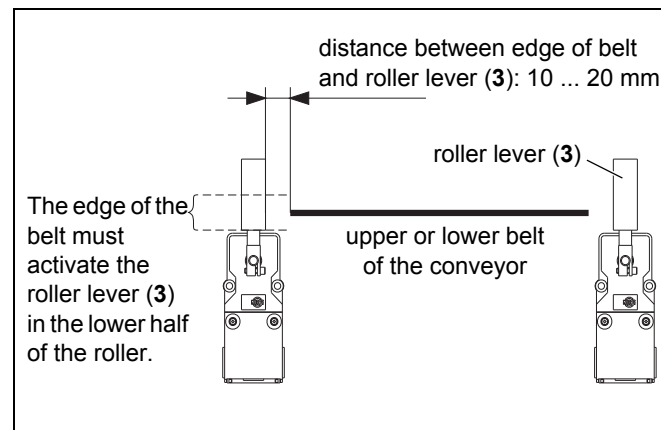
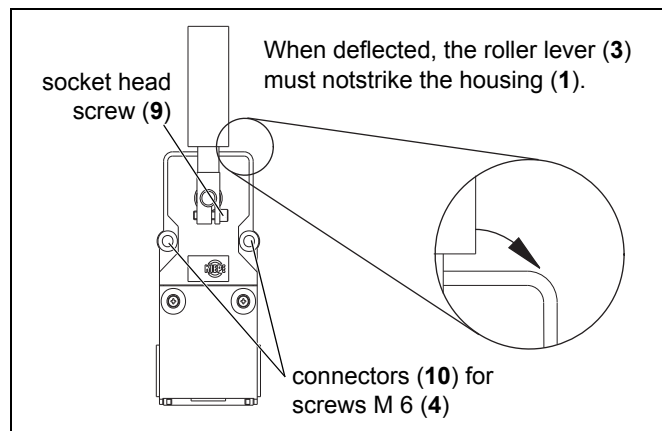

Fig. 5-2: Installing the misalignment switches in pairs on the conveyor belt
Fig. 5-3: Installing the misalignment switch on the conveyor belt
Install the misalignment switch so that when the belt is misaligned the edge of the belt activates the roller lever (3) in the lower half of the roller. This will prevent the belt from slipping over the roller lever (3) (see Fig. 5-2)
points at greater axial distances or at material transfer points (see Fig. 5-2).
2. Attach the misalignment switch with two screws M 6 (4) through the connectors (10) on the conveyor belt structure (see Fig. 5-3).
3. Loosen the socket head screw (9) using a hexagon socket wrench, size 4 (see Fig. 5-3).
To prevent rapid wearing of the roller lever (3), you should install the roller lever (3) so that it is positioned about 10 to 20 mm before the belt edge (see Figure 5-2 and 5-3).
When tightening the socket head screw (9), ensure that when the roller lever (3) is deflected, the distance to the housing (1) is large enough to prevent the roller lever (3) from striking the housing (1) (see Fig. 5-3).
4. Rotate the roller lever (3) into the required position and tighten the socket head screw (9) to a **tightening torque of 4 Nm to 4.5 Nm**.
2. Loosen the socket head screw (9) using a hexagon socket wrench, size 4 (see Fig. 5-3) and pull the roller lever (3) off the shaft (12).
3. Place the new roller lever (3) on the shaft (12).